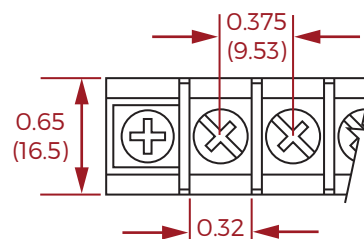

Figure 5. Output Barrier Strip Detail
Barrier strip connection use No. 6-32 screws. Recommended wire size is #10AWG. Figure 5 below shows detailed spacing of the terminals.
- 11.3** Output connections are made to barrier strip connectors and grounding screws. See Section 9.3 and Figure 5.